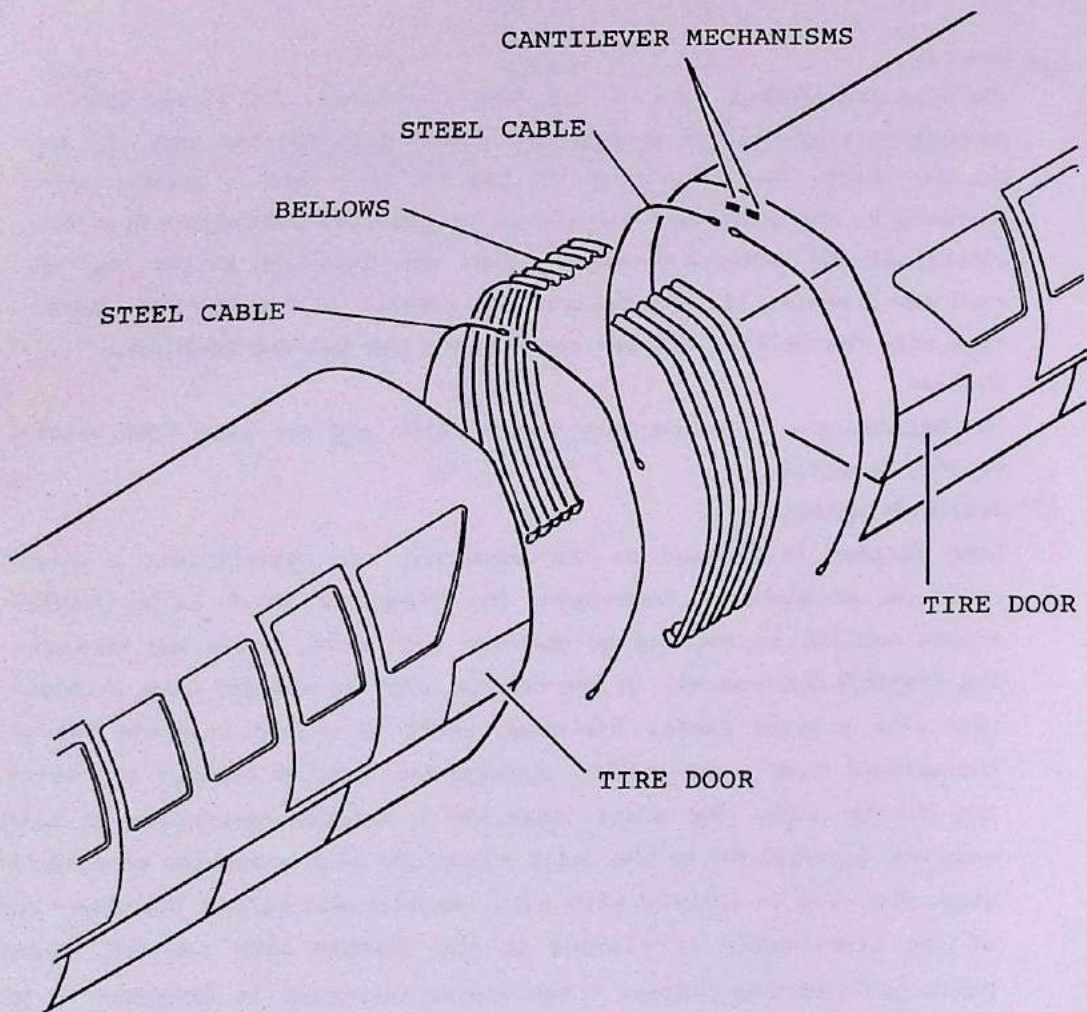

Fig. 1 Bellows - General Arrangement
1. Description and OperationA. Description (Fig. 1)